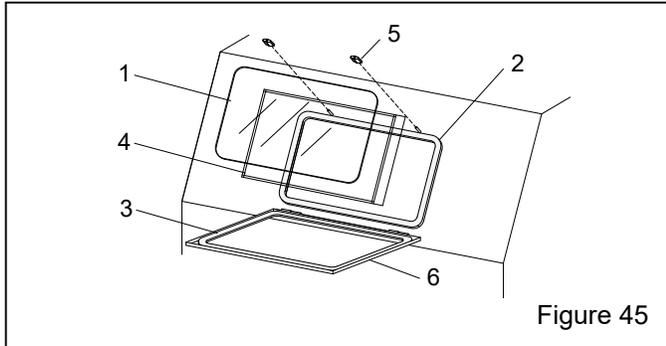

Figure 45
**9.3 View-Window Assembly – Figure 45**